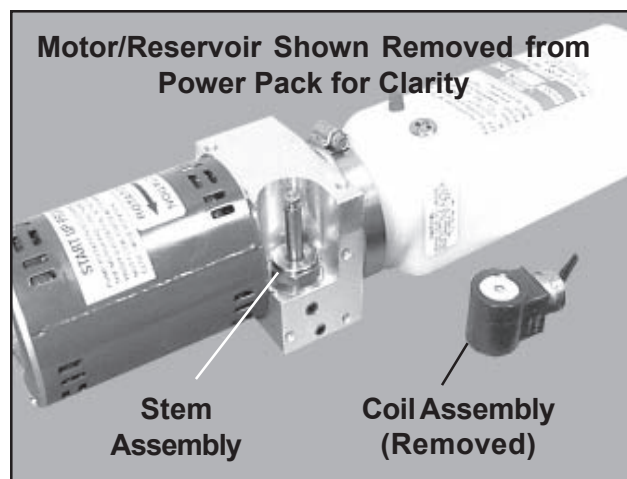

Figure 51. Stem Assembly
6. With a 1/2-in. socket wrench and a 1-1/8-in. deep-socket, unscrew and remove the stem assembly (Figure 51).